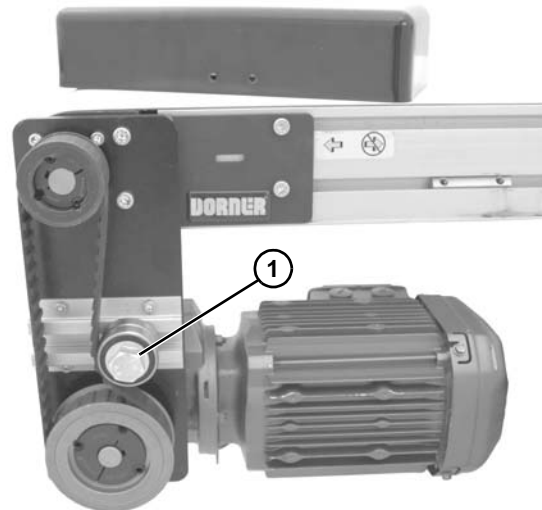

Figure 16
2. Loosen tensioner (Figure 16, item 1).